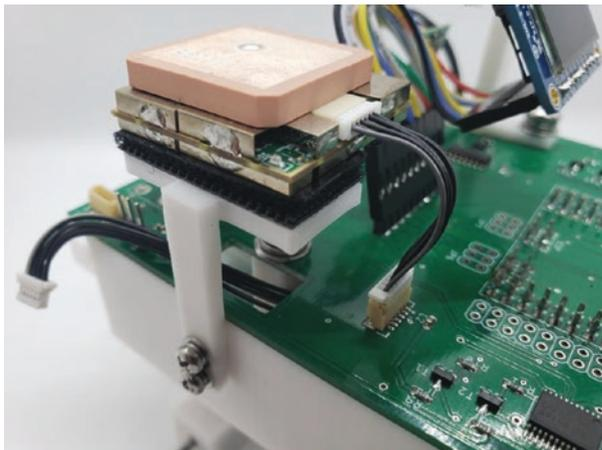

Figure 8-64. Attach the GPS mount to the chassis
19. Attach the GPS mount to the chassis using 2 x M2 10mm screws and 2 x M2 nuts. See Figure 8-64.